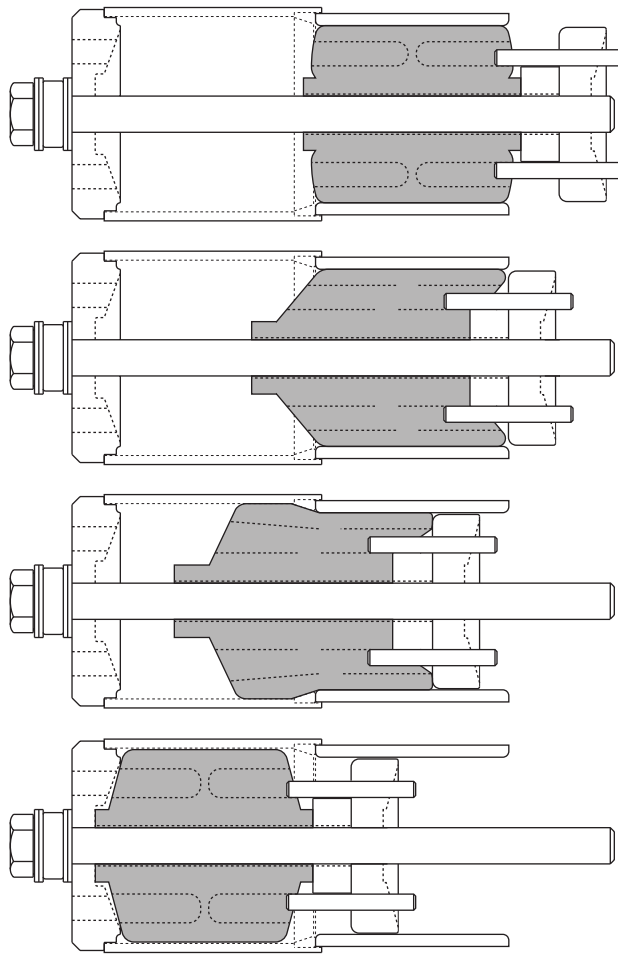

Figure 25: Typical bushing removal progression as hex head bolt is turned clockwise
13. Using a $\frac{3}{4}$ -inch impact wrench and a $1\frac{1}{16}$ -inch heavy-duty (six-point) impact socket, **remove** the bushing by turning the hex head bolt clockwise (Figure 25). Normal removal time should be four minutes or less.